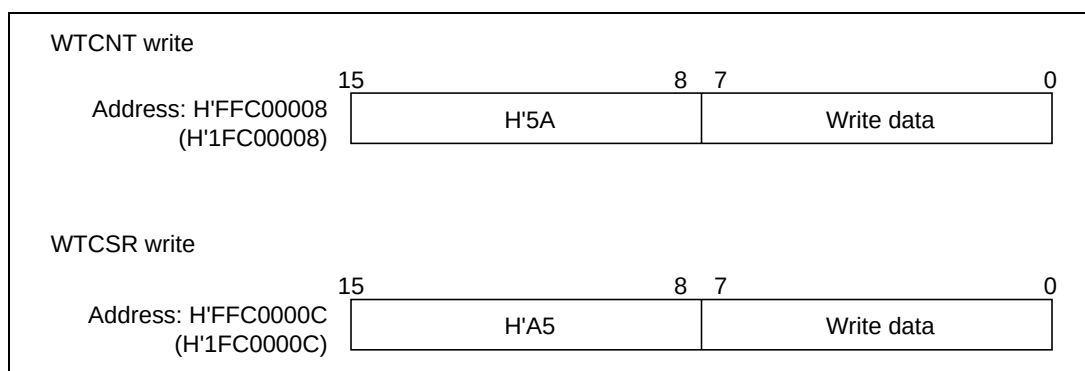

Figure 10.3 Writing to WTCNT and WTCSR
**Writing to WTCNT and WTCSR:** These registers must be written to with a word transfer instruction. They cannot be written to with a byte or longword transfer instruction. When writing to WTCNT, perform the transfer with the upper byte set to H'5A and the lower byte containing the write data. When writing to WTCSR, perform the transfer with the upper byte set to H'A5 and the lower byte containing the write data. This transfer procedure writes the lower byte data to WTCNT or WTCSR. The write formats are shown in figure 10.3.